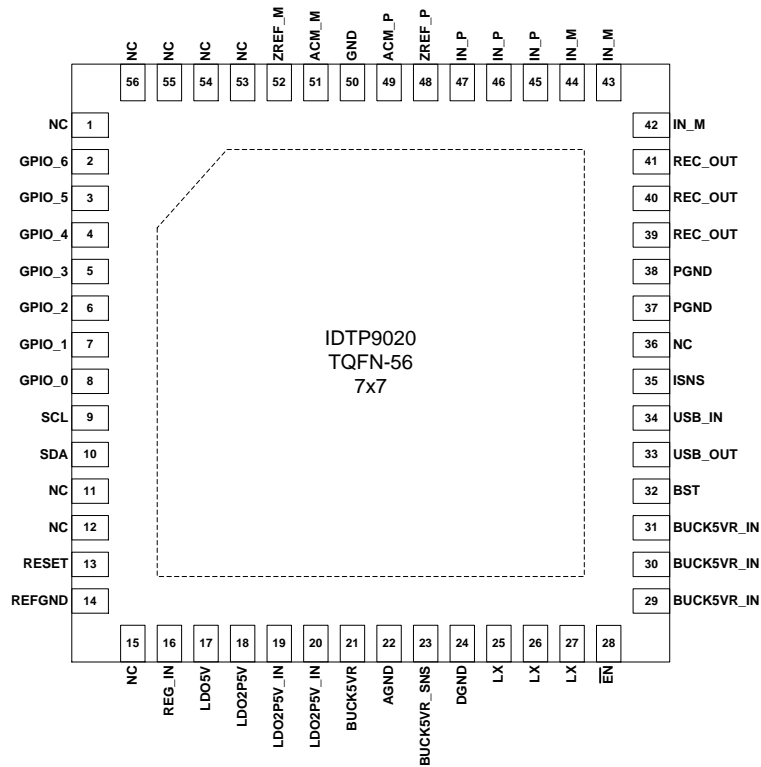

Figure 1. IDTP9020 QFN (NTG56 7x7x1mm 56-Icd) Pin Configuration
Table 4 – QFN NTG56 Pin Functions by Pin Number (See Figure 1)
**Table 5 – QFN NTG56 to WLCSP AHG99 Pin Translation (See Figures 1 and 2)**